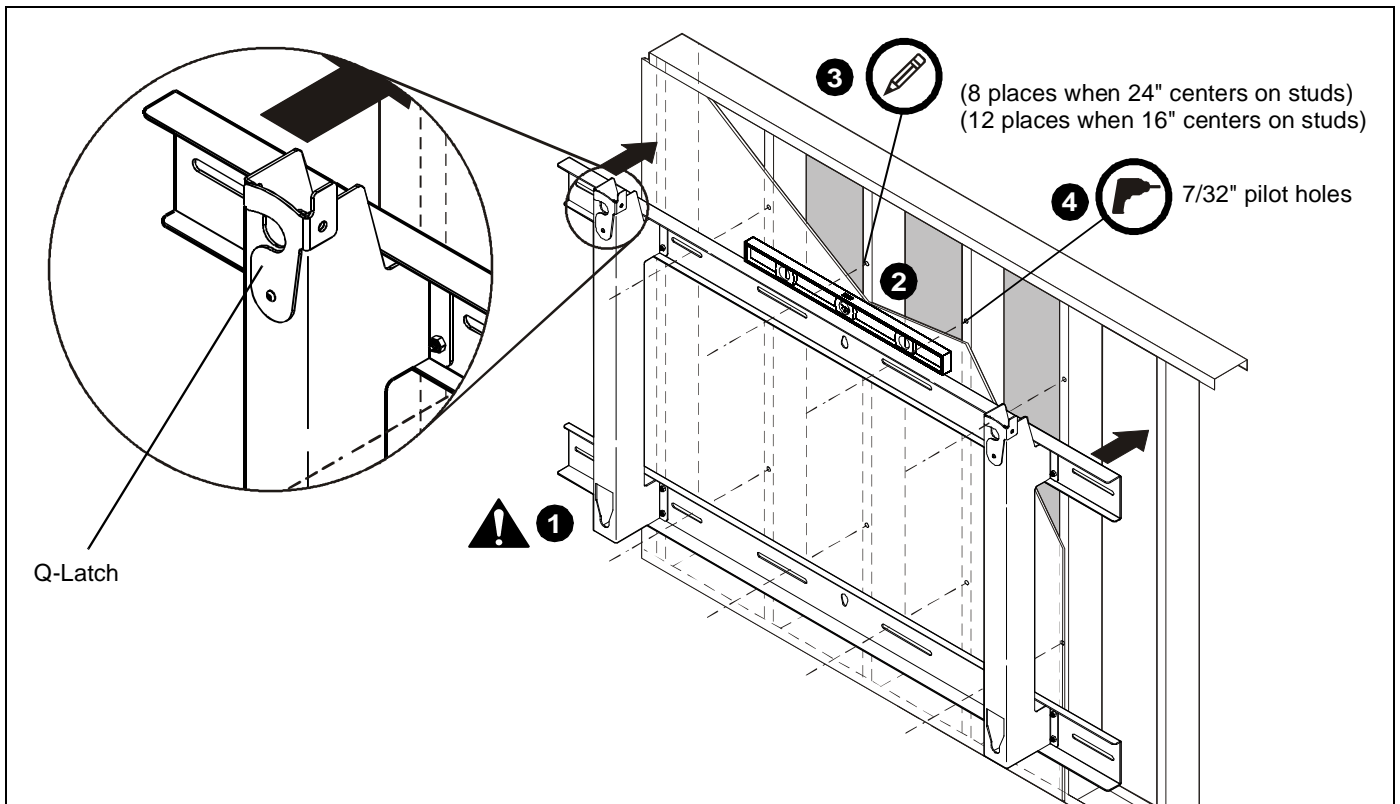

Figure 2
1. Using appropriate lifting device, raise assembled mount and place mount against wall in desired installation location. (See Figure 2)
3. Using a pencil, or similar marking tool, mark the location of mounting holes in base onto surface. (See Figure 2)